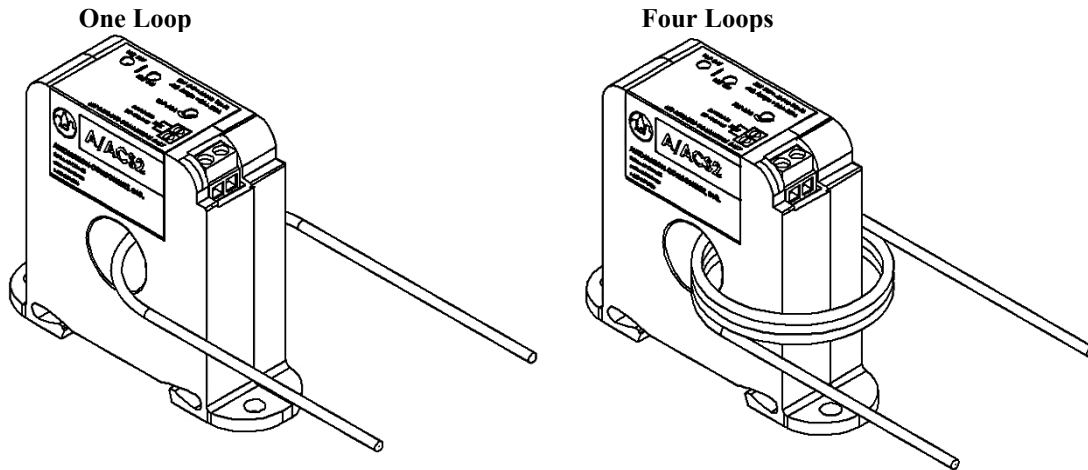

Figure 3: Wires Through Sensors
The conductor being monitored may be looped through the sensor multiple times. The loops increase the current measured by the current switch. Each time the conductor passes through the current switch window equals one loop (See Figure 3 below). To determine the proper number of turns required, take the rated Minimum Adjustable Trip Point of the current switch (see Figure 6) and divide it by the Operating Current of the Monitored Device, add one (1), then round up to the nearest whole number. Example: When using the A/ACS2, a small fan operating at 0.17A should be wrapped through the sensor four times to give you a total operating current of 0.68Amps flowing through the A/ACS2. Formula Example: $(0.5A/0.17A) = 2.94 + 1 = 3.94$, which rounded up equals 4 loops.
Red LED didn't turn on and the current switch didn't activate	Verify that the conductor you are monitoring is above the adjustable trip point. If the sensor is monitoring less than the adjustable trip point, see Figure 3.